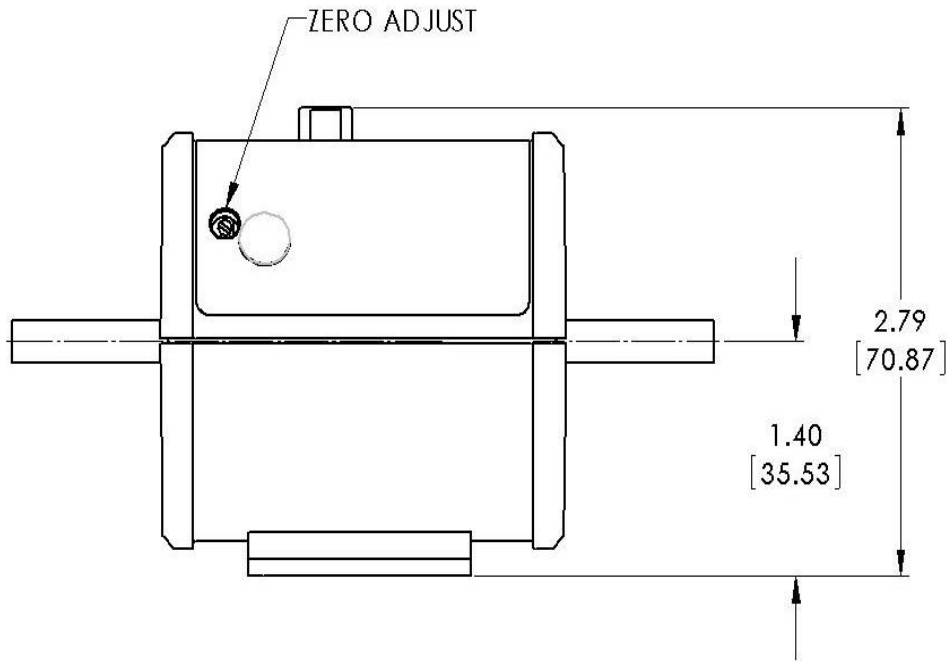

Figure 1 - The 226A/228A in the Normal Orientation
- The preferred orientation of the transducer is with the pressure port tubes horizontal (see Figure 1 - The 226A/228A in the Normal Orientation) although the 226A/228A can be mounted in any orientation.